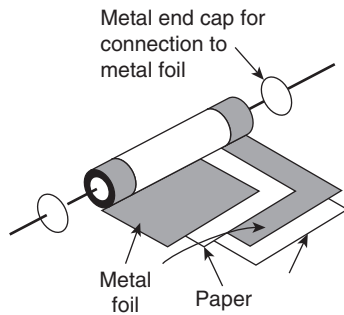

Figure 6.16
- Paper capacitors.** A typical paper capacitor is shown in Fig. 6.16 where the length of the roll corresponds to the capacitance required.